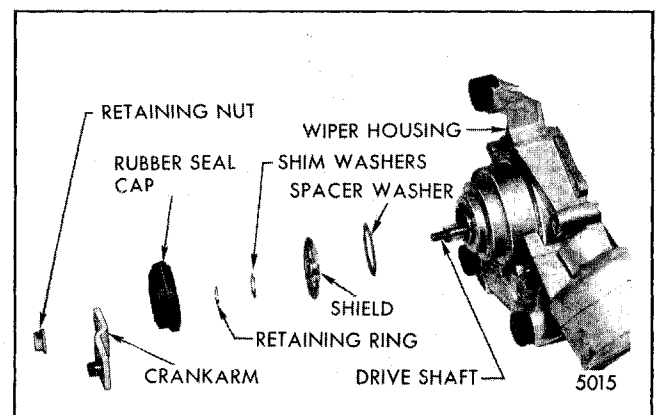

Fig. 2-67-Crank Arm Components - Exploded View
7. Reassemble the outer spacer washer, shield, shim washers as required to obtain 0.10 mm (.004"), plus or minus 0.05 mm (.002") end play, snap ring and rubber seal cap in the order indicated. Refer to Figure 2-67.
Add or remove shim washers as required to obtain 0.10 mm (.004") plus or minus 0.05 mm (.002") end play (Fig. 2-67).